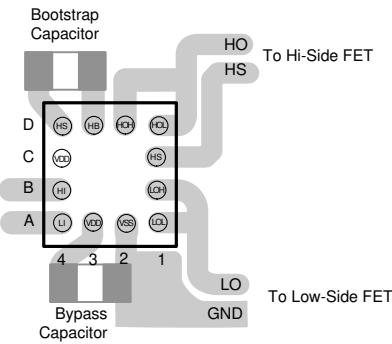
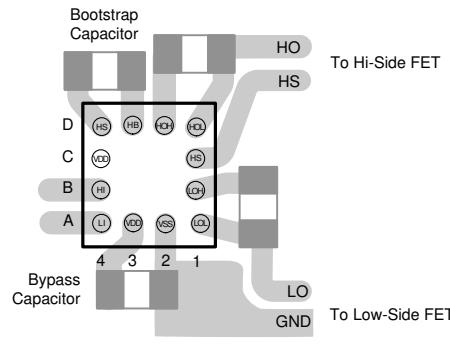

図 10-1. Layout Example Without Gate Resistors
図 10-2. Layout Example with HOH and LOH Gate Resistors
図 10-1 and 図 10-2 show recommended layout patterns for the LMG1205. Two cases are considered: (1) without any gate resistors, and (2) with an optional turnon gate resistor. Note that 0402 surface mount package is assumed for the passive components in the drawings. For information on DSBGA package assembly, refer to セクション 11.2.1.